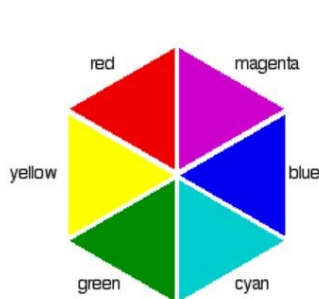

Figure 1
- 2) The dye looks blue because it absorbs light in the 560 nm – 650 nm region of visible light. Refer to Figure 1. You need to determine the best wavelength in this region at which the dye absorbs light. Turn on the spectrophotometer set the software to the wavelength scan option.